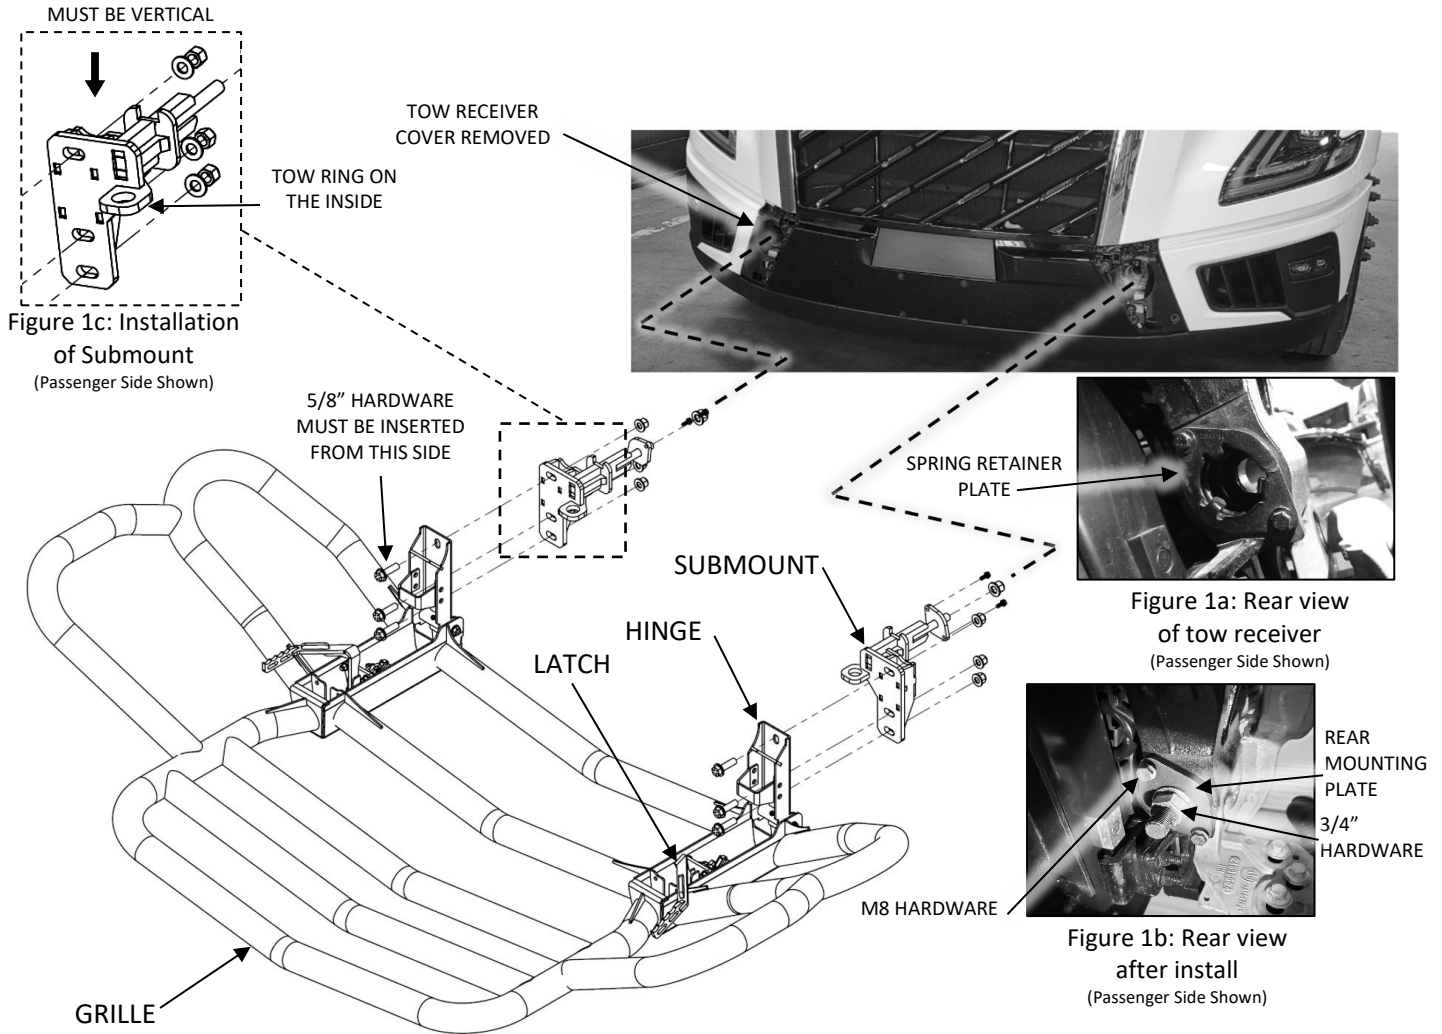

Figure 1: Grille Guard Installation (Your Grille Guard may not be exactly as shown)
1. Remove the OEM tow receiver covers (Figure 1), spring retainer plates, springs and internal washers (Figure 1a).
4. Open the driver side Hinge and lift it to the driver side Submount. Hand tighten upper hardware shown in Figure 1 (**do not fully tighten**). Repeat this step for the passenger side. **Ensure bolts are inserted from front (Hinge side) as shown in Figure 1.**